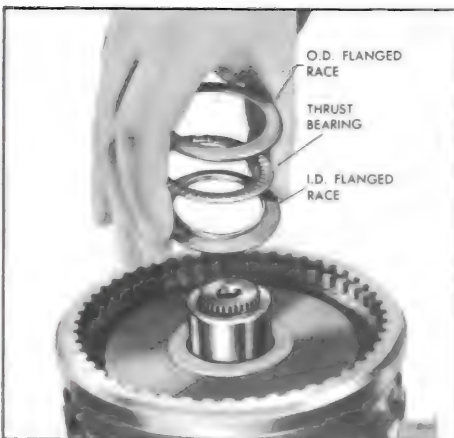

Figure 5-674
a. Place the large race against the internal gear with flange facing forward or up. See Figure 5-674.
6. Install the rear internal gear to output shaft thrust races and bearings as follows; and retain with petrolatum. See Figure 5-674.